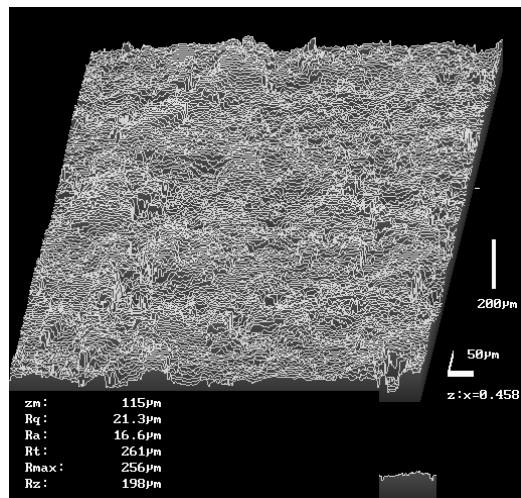

Figure 5: LSM surface profile (sample 3).
The surface roughness was quantified using a Zeiss LSM 410 laser scanning microscope. The result of these measurements is a three-dimensional surface profile as displayed in Figure 5.
E. Bowman Stratton (Bow), chief of the Relief Map Division, Army Map Service, in 1947 successfully started production of relief maps using the equipment shown in Figure 10. His group built on the work of the Braund patent, Figure 5, and produced a machine with all the elements of a modern vacuum former. In January, 1952, Bow Stratton joined Industrial Radiant Heat Corp. of New Jersey as sales manager, and was present at the NPE March 1952 show where the machine drew such universal interest, as quoted above.